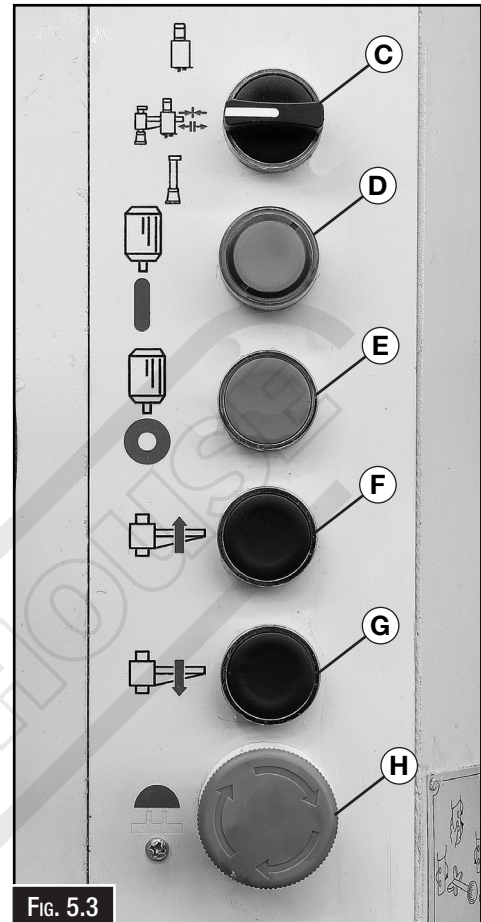

FIG. 5.3
- F. **Column Up Button:** Moves the column up after the clamp button (B in Fig.5.3) is released.
- G. **Column Down Button:** Moves the column down after the clamp button (B in Fig.5.3) is released.
**Note:** *The Motor Head clamp must be released before it can be moved along the radial arm. (J in Fig: 5.3)*